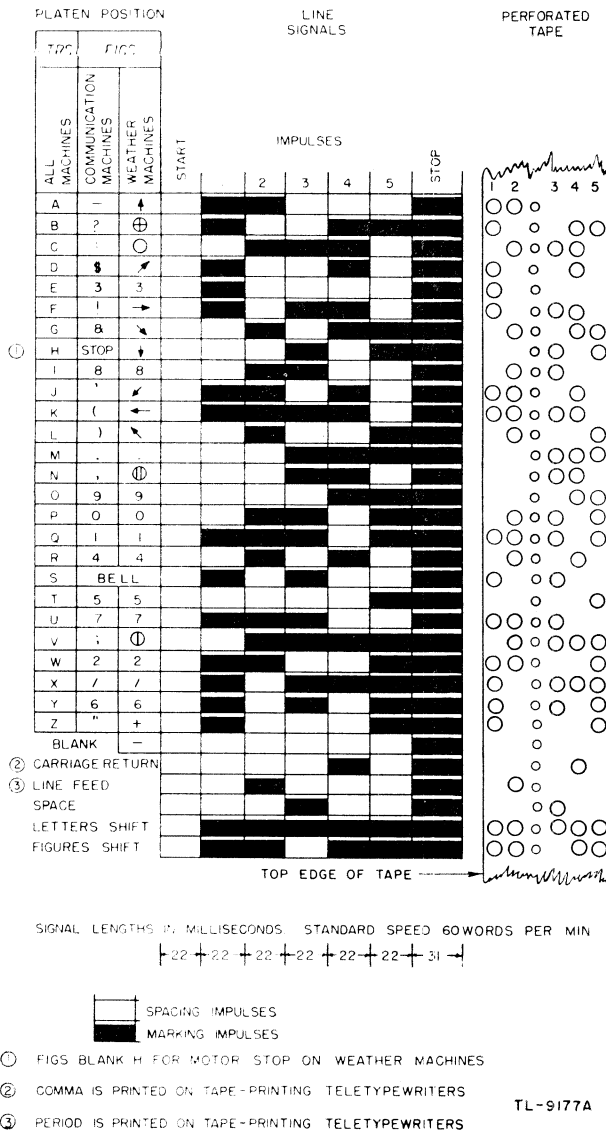
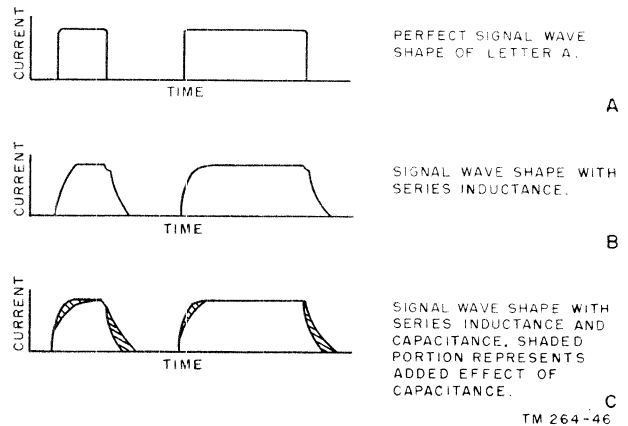

Figure 60. Teletypewriter code.
Figure 61. Neutral signal waveshapes.
b. TELETYPEWRITER CODE. A special teletypewriter code (fig. 60) is used in which each letter or signal is made up of five units or elements of equal length. These elements are known as marking or spacing impulses.
- (1) *Marking impulses.* Marking impulses are those signals which operate the selector magnets in the receiving printer.
- (2) *Spacing impulses.* Spacing impulses, or signals, are of the same length (duration) as the marking impulses, but do not operate the selector magnets of the receiving printer.
- (3) *Other impulses.* Provision is made to
set the machine in readiness for receiving the code group by a spacing impulse (start), which precedes the code group. Another impulse (marking) follows the last impulse of the code group and is used to return the machine to a position of readiness to receive the next code group. This impulse is 1.42 times as long as the other impulses (fig. 60) and is called the stop impulse because it stops the receiving machine in order to maintain synchronism with the sending machine.
c. OPERATING CURRENT. The mark and space impulses used to operate a teletypewriter are pulses of direct current of uniform intensity (fig. 60). If oscilloscope test prods were connected across a line carrying these mark and space impulses, they would appear as a square waveform (fig. 61). It is highly important that the transmitter impulse maintain its waveform when it reaches the receiving apparatus, as a steady impulse is necessary for correct operation of the receiving machine. When sending at 60 wpm (words per minute), assuming a standard 5-letter word, the time for each unit signal impulse is 22 ms (milliseconds)
(fig. 60). When the selecting mechanism of the receiving teletypewriter is adjusted correctly, it operates only during the central portion of the received signal impulse, requiring only 20 percent of the unit interval, or approximately 4 ms. It is apparent from the above that there are many factors that may cause false operation of the receiving teletypewriter. Improper adjustment of receiving and sending equipment may result in improper synchronization and consequent false operation. Link (connecting wire) leakage, line resistance, ground resistance, ground potentials (due to earth currents), and changes in electrical constants in the involved components may all create wave-shape distortion.
c. INDUCTANCE. A magnetic field is set up about any conductor that is carrying current, regardless of the lengths of the conductor. While the inductive effects created by this field are insignificant in short lengths of line, they become appreciable in lines several miles long. The effect of this line inductance is to distort the waveshape (B, fig. 61) and change the frequency response of the line. In long lengths of line, capacitive effects predominate and additional inductance in the form of loading coils may be added to the line to cancel the capacitive effect and thus improve the frequency response (C, fig. 61). The unit of line inductance is the
d. CAPACITANCE. The capacitive effect of a long line is caused by the two wires acting as the plates of a capacitor and the air, or insulation, between them acting as the dielectric (C, fig. 61). This effect increases with increase in the length of the line. In addition to the capacitance between wires there is also the capacitance of the wires to ground. The unit of capacitance in long line work is the microfarad per mile.
a. NEUTRAL SYSTEM. In the neutral system, current is sent over the line to operate the teletypewriter selector mechanisms to the marking position, and the current is stopped to operate the relays to the spacing position. A marking current of 60 ma (milliamperes) is required to operate the teletypewriter relays. The NEUTRAL OUTPUT control of the dual diversity converter is used to adjust the steady marking current to 60 ma. Figure 61 shows the desired neutral d-c waveform and the normal changes resulting in that waveform from transmission over wire lines. The neutral system is entirely satisfactory over short lines, but where long lines are used, undesirable effects may appear.
- (1) *Working voltages.* Long lines cause attenuation of the transmitted signal. The longer the line, the greater the attenuation, due to the increasing resistance of the wire between the transmitting and receiving teletypewriters. The sending voltage must be increased